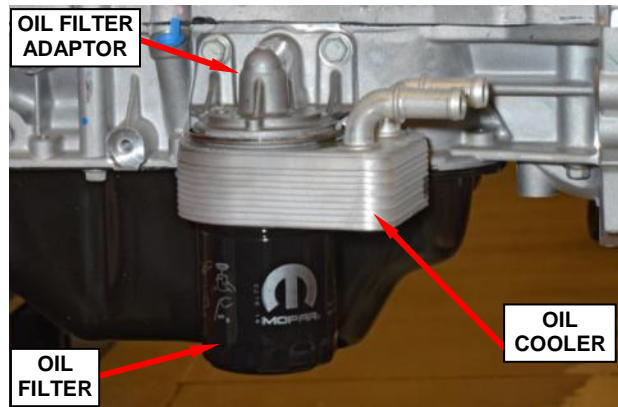

Figure 114 – Engine With Oil Cooler
NOTE: For vehicles not equipped with an engine oil cooler, and if the new engine includes an engine oil cooler (Figure 114), the engine oil filter connector will need to be transferred to the new engine.
- a. Remove the engine oil filter (Figure 114).